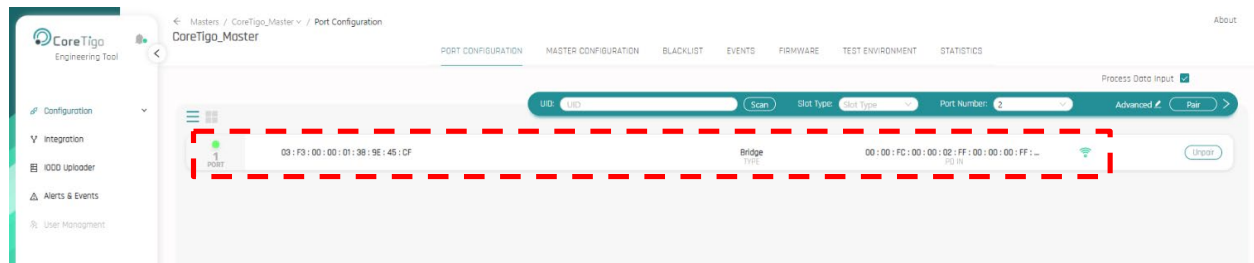

Figure 32: Paired W-Device in Port Configuration View
3. When pairing is successful, details of the paired w-device appear in the **Port Configuration** view table. Details include its port number, UID, and input data (if it supports PDIn). See Figure 32.